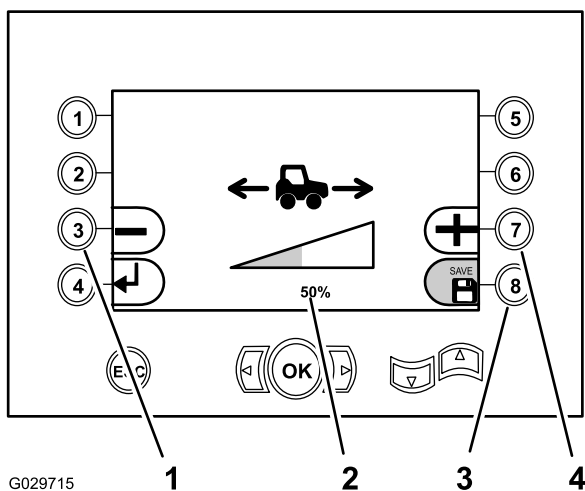

Figure 41
- Press button 3 (Figure 41) to lower the percent of ground speed that you can set with the utility-traction joystick (down to 15% of the ground speed that you can set with the foot pedal).
- Press button 7 (Figure 41) to increase the percent of ground speed that you can set with the utility-traction joystick.
3. Press button 8 to save your setting (Figure 41).